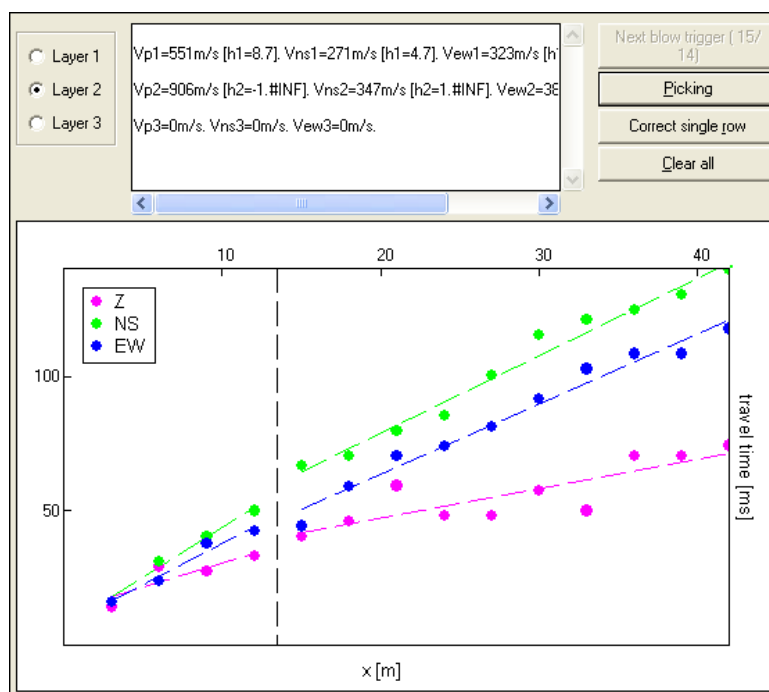

Figure 13. Detail of the dromochrone module.
The *dromochrones* are plotted in different colours (Figure 13) for the different components and can be inverted for both stratigraphy and seismic velocities using the standard seismic methods. Recall that, especially for S waves, but both the generation and the picking remain a not trivial task.
A refracted dromochrone appears as a piecewise linear curve with different segments corresponding to different strata (Figure 13). The key goal of the analyst is to identify the points of change in slope of the dromochrone.
- 1) select the layer the properties of which are going to be identified on the dromochrone (Layer 1, Layer 2 or Layer 3 in the options menu, see Figure 13),
The inferred velocity values in the 3 components and the related stratigraphy will be displayed in the box at the center (see Figure 13).